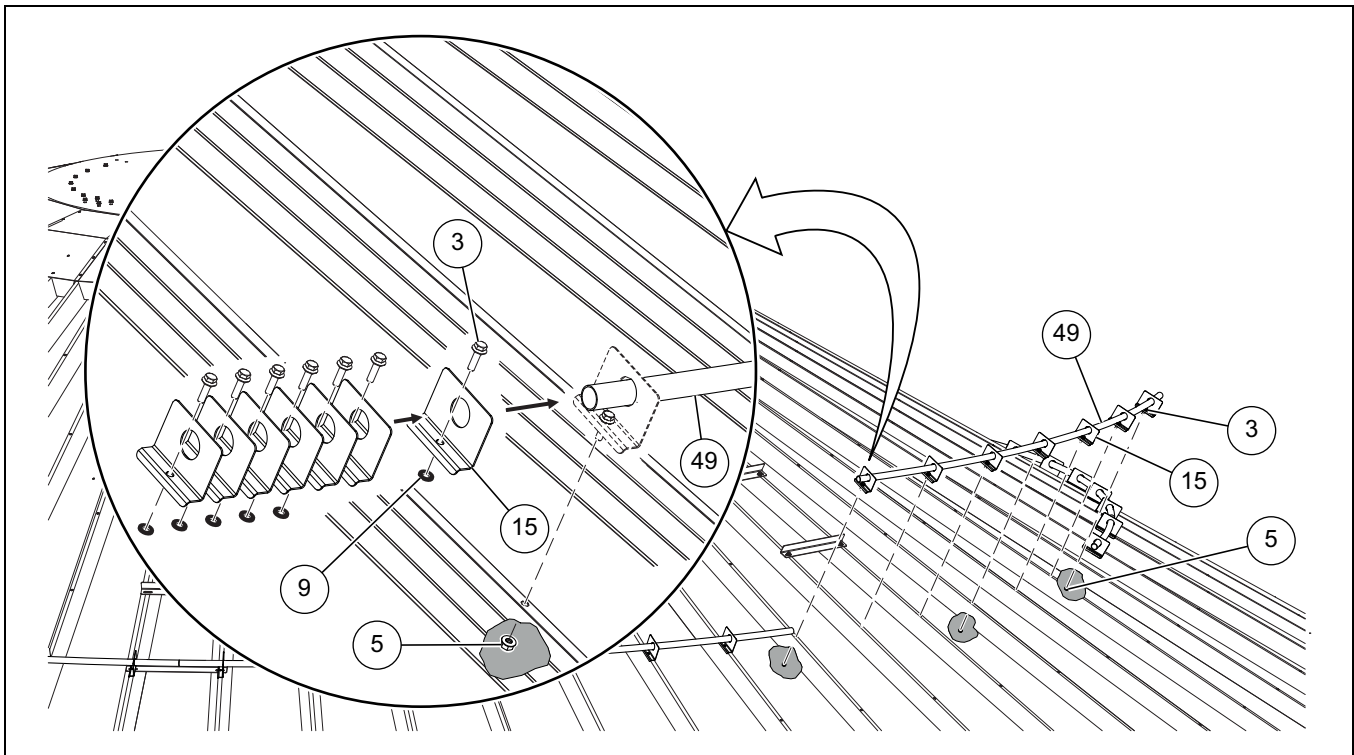

Figure 11E Installing the Roof Ring
2. Install a 5/16" x 1" flange bolt (3) to the roof ring clip (15) and install a sealing washer (9) to the underside of the roof ring clip (15).
3. Slide each assembled roof ring clip (15) onto a roof ring section (49) and position each roof ring clip (15) over each roof panel rib.
4. Install a 5/16" flange nut (5) to each roof ring clip (15). (See Figure 11E.)